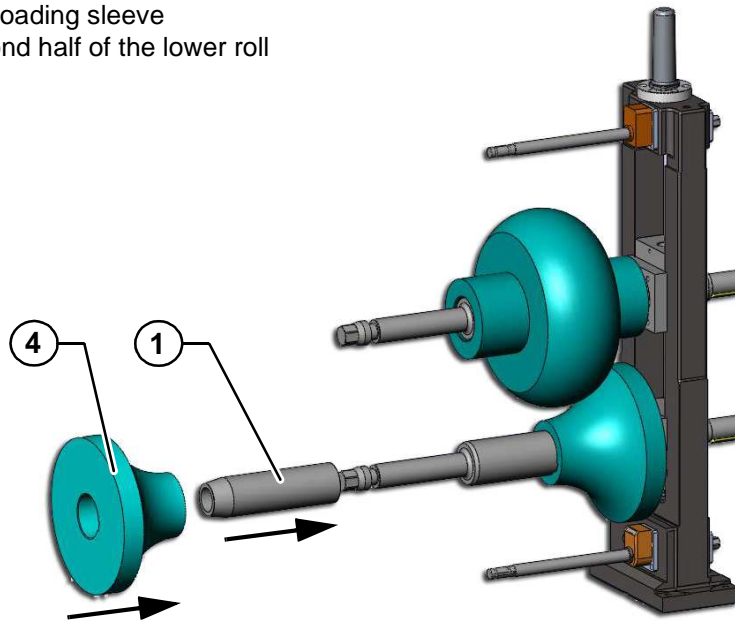

Fig. 2-E Roll assembly: phase 3
- 4- Remove the roll loading sleeve pos.1 from the lower shaft (see *Fig. 2-F*).